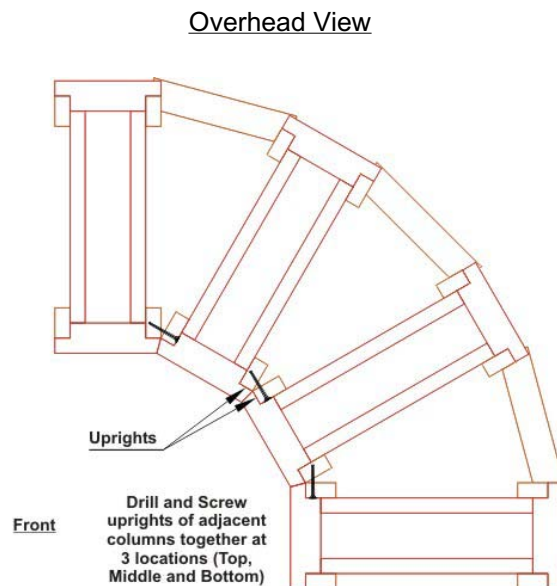

Figure 10
15. Once all the back uprights of all the columns are connected using spreader bars, repeat step 12 for the remaining front uprights (**Figure 10**),